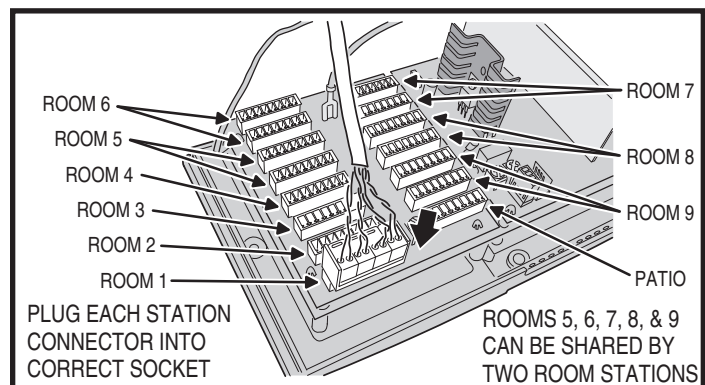

Figure 16. Station Connections on Master Station
1. Refer to the room number identification printed next to each connector socket on the circuit board (see Figure 16). The connector room number 1-9 identification matches the station selector switches 1-9. Stations 5, 6, 7, 8, and 9 each have two sockets for connection for two Room Stations that will share the same station selector switch.